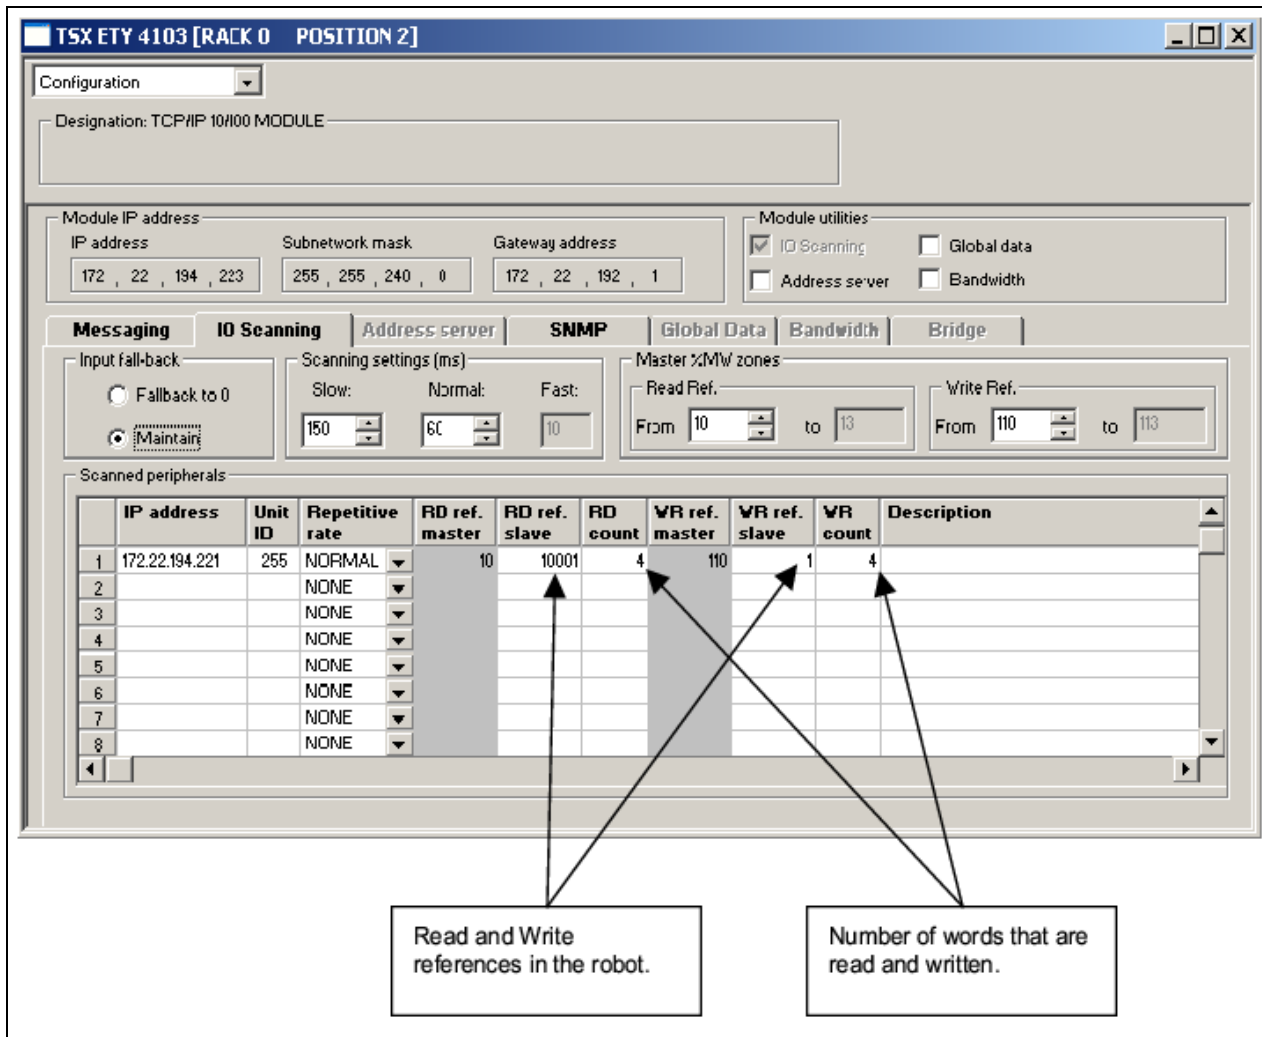

Fig. 3.6 RD slave
6. Set the RD ref slave to the first Holding Registers address of robot Digital Output (DO [1]). This will be 10000 if zero-based addressing is used, or 10001 for one-based addressing. This number should correspond with the configuration of Output Words on the robot Modbus TCP screen. See Fig. 3.6.